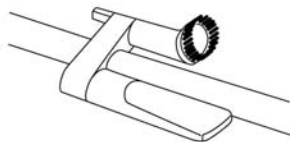

Fig. 9
Located on the extension tube, the accessory caddy allows you to store your accessories within your reach. No more hunting for the dusting brush or crevice tool, the accessory caddy keeps your vacuum accessories at your fingertips. (Fig. 9)
- Keep Air Driven Turbo Brush turbine free of dirt and foreign matter. (See Fig. 9 and cleaning instructions)
- Gardez la turbine de la brosse turbo entraînée à l'air libre de saletés ou d'autres matières encombrantes. (Voir Fig. 9 et les instructions de nettoyage)